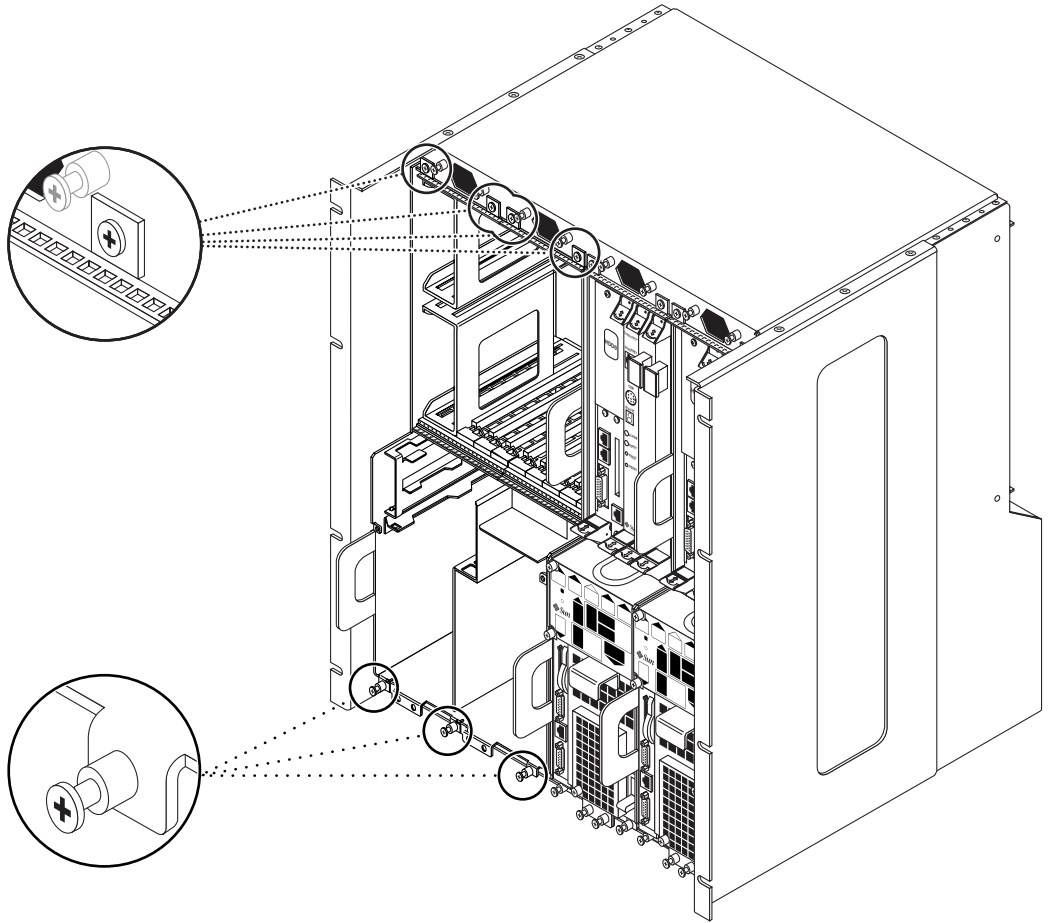

FIGURE 9-2 Loosening the Screws at the Top and Bottom of a Netra ct 800 Server
- If you are removing a Netra ct 800 server, loosen the *four* black captive screws at the top of the server and the *three* black captive screws at the bottom of the server (FIGURE 9-2).
- If you are installing a Netra ct 800 server, tighten the *four* black captives screws at the top of the server and the *three* black captive screws at the bottom of the server (FIGURE 9-2).